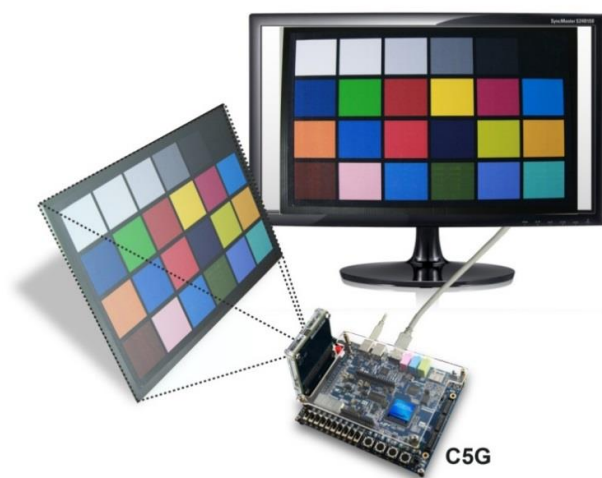

Figure 5-10 Setup Connection of DE1_SOC_D8M_VIP demonstration
- Connect a USB cable between the host PC and the USB connector (J10) on the C5G board (See **Figure 5-10**).